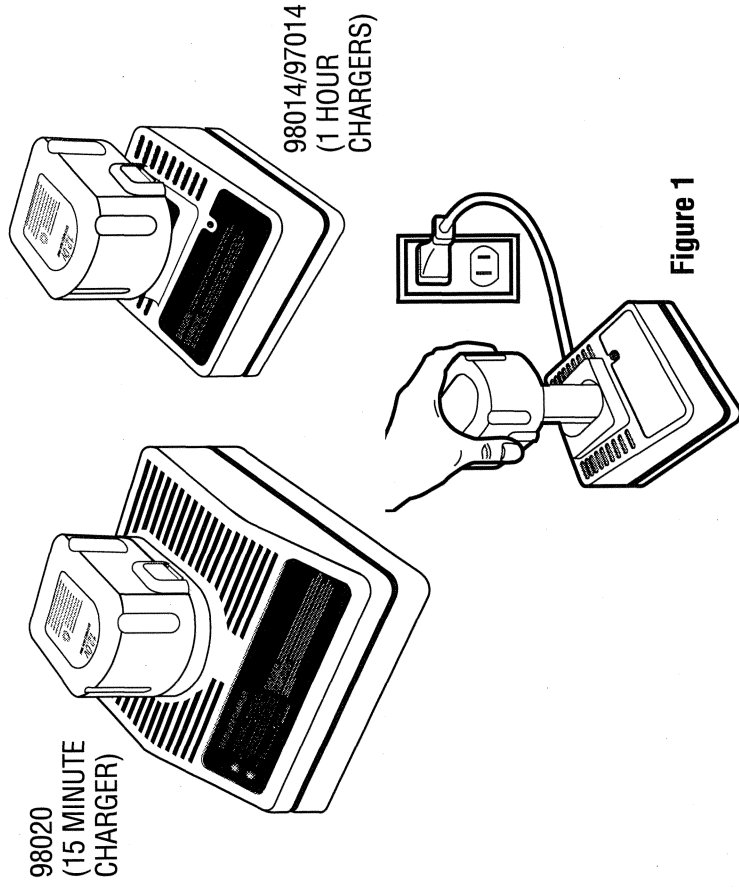

Figure 1
These chargers require no adjustment and are designed to be as easy as possible to operate. Simply place your battery pack into the receptacle of a plugged in charger, as shown in Figure 1, and it will automatically charge the pack.
2. Insert the battery pack into the charger, as shown in Figure 1, making sure the pack is fully seated in the charger. The red (charging) light will blink continuously indicating that the charging process has started.
2. Insert the battery pack into the charger, as shown in Figure 1, making sure the pack is fully seated in the charger. The red light will blink and the charger will beep once indicating the charging process has started.